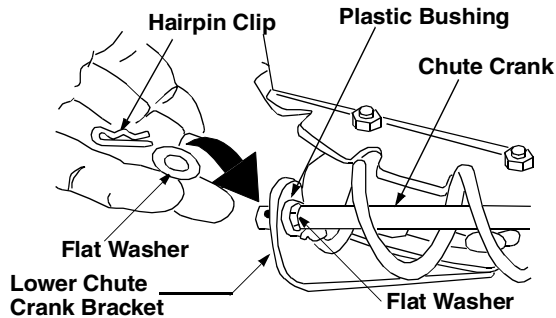

Figure 6
then insert the end of the chute crank into the eye hole in the plastic bushing in the lower chute crank bracket. See Figure 6 .
- Place the other 3/8 ID flat washer (from the same group of hardware) on the end of the chute crank and insert hairpin clip into hole at the end of the chute crank. See Figure 6 .
- Adjust the chute bracket so that the spiral on the chute crank fully engages the teeth on the chute assembly. Tighten hardware (Figure 6) on the lower chute crank bracket, if loosened earlier.